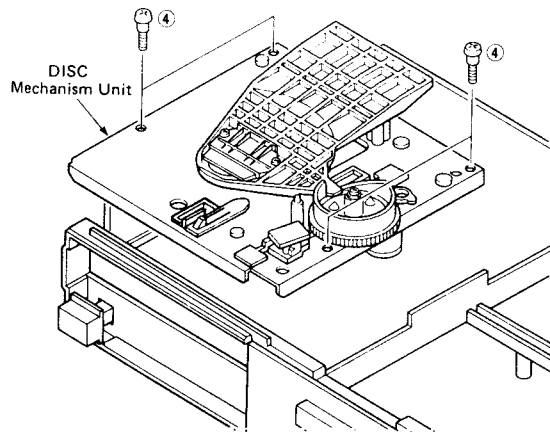

Fig. 4
- a. Remove 4 screws (④) in fig. 4.